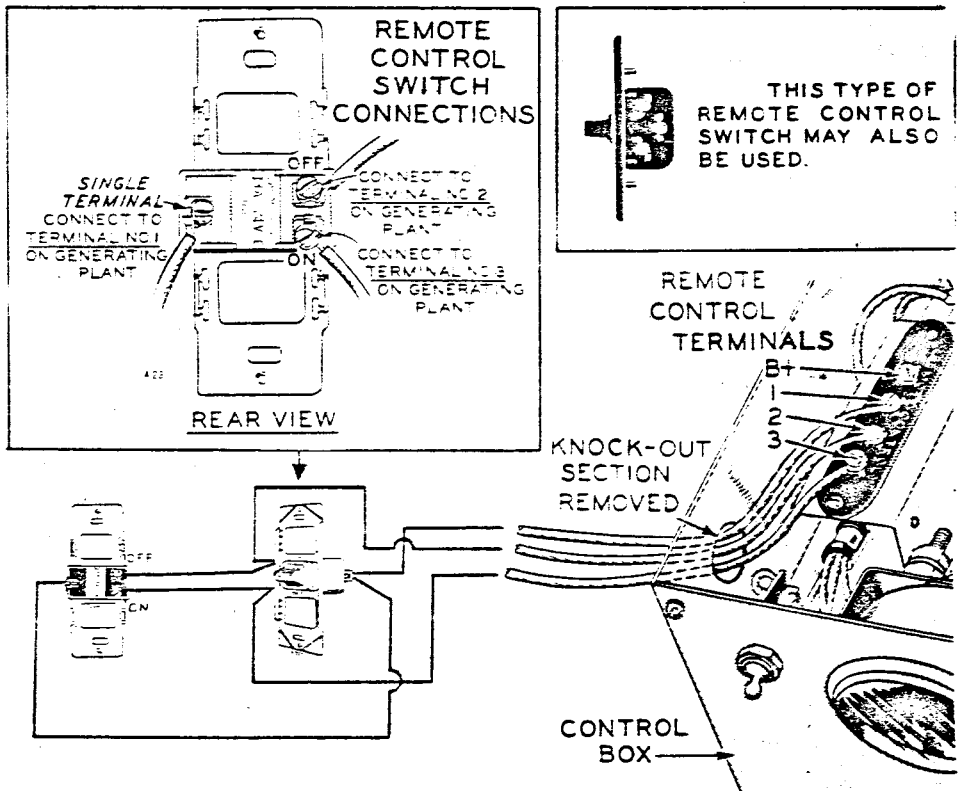

Fig. 11 Remote Control Connections
**REMOTE CONTROL CONNECTIONS.** — A small four place terminal block, for remote control connections, is mounted in the control box of remote control models. To provide for remote control of starting and stopping, connect the remote control switch to this terminal block, Fig. 11.